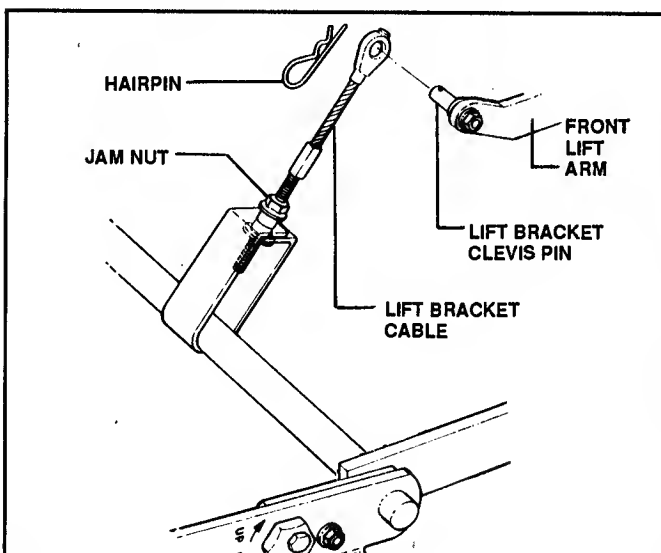

FIGURE 23
2. Remove hairpin from FRONT LIFT BRACKET CABLE clevis pin. See Figure 23.
5. Loosen the jam nut on the front lift cable and adjust until the front lip of the deck rests on the 2 x 4 block and the cable is tight. Tighten the cable jam nut and remove the block. See Figure 23 on Page 11.